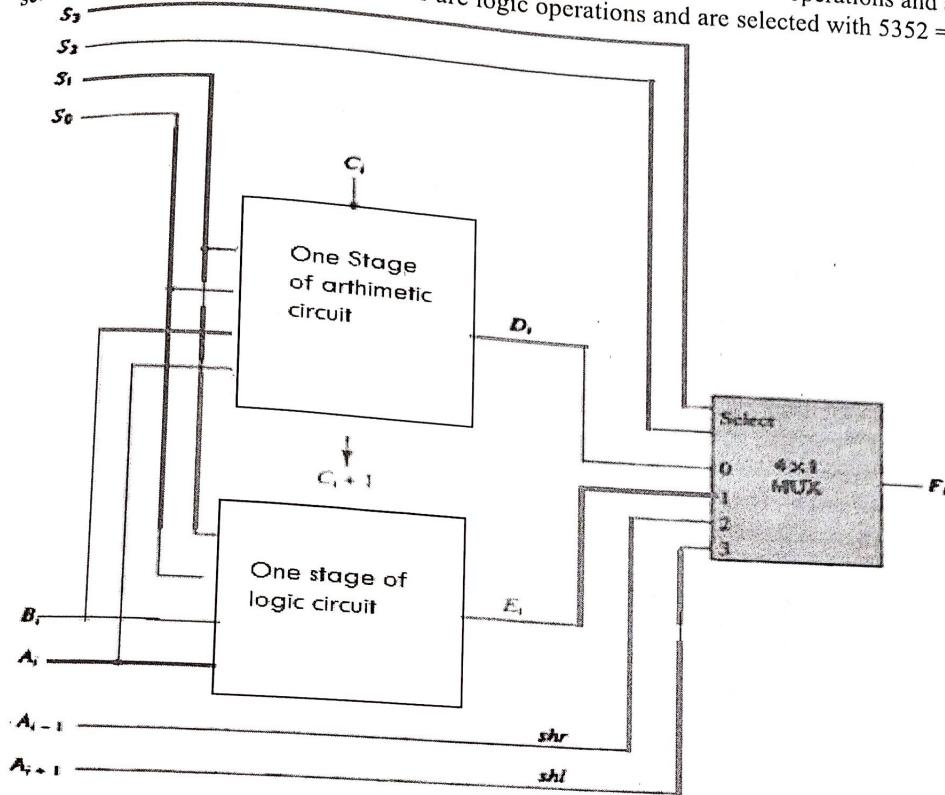

Fig 13: One stage of arithmetic and logic unit
- The arithmetic, logic, and shift circuits introduced in previous sections can be combined into one ALU with common selection variables. One stage of an arithmetic logic shift unit is shown in Fig. 13.
- Fig. 13 provides eight arithmetic operation, four logic operations, and two shift operations. Each operation is selected with the five variables  $P_3, P_2, P_1, P_0$ , and  $C$ . The input carry  $C$ , is used for selecting an arithmetic operation only.